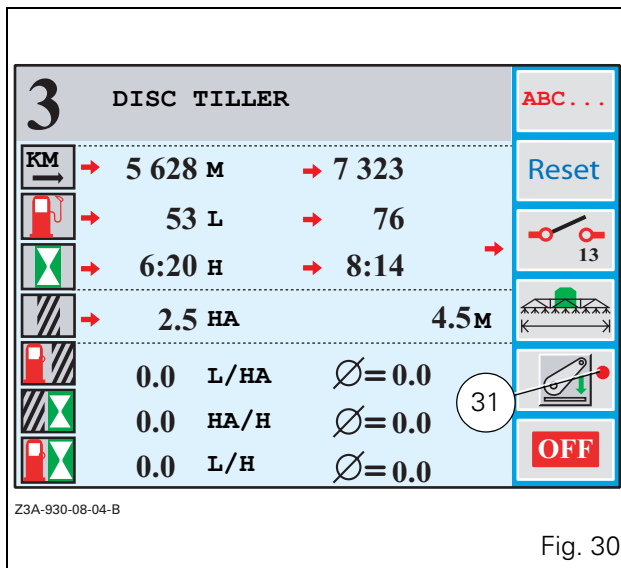

Fig. 30
- To reset all the values, rotate the encoder in such a manner as to place a mark facing each value and validate by pressing the encoder (Fig. 30).
To select this event, press the key «5 when the window (Fig. 30) is open. The window (Fig. 31) is displayed.
NOTE: When parameter measuring is active, a red dot is displayed on the corresponding icon (e.g. 31 Fig. 30).
To select an event, turn the encoder to position the marker opposite the required icon. Then validate by pressing the encoder. The window (Fig. 30) is displayed again with the selected icon.